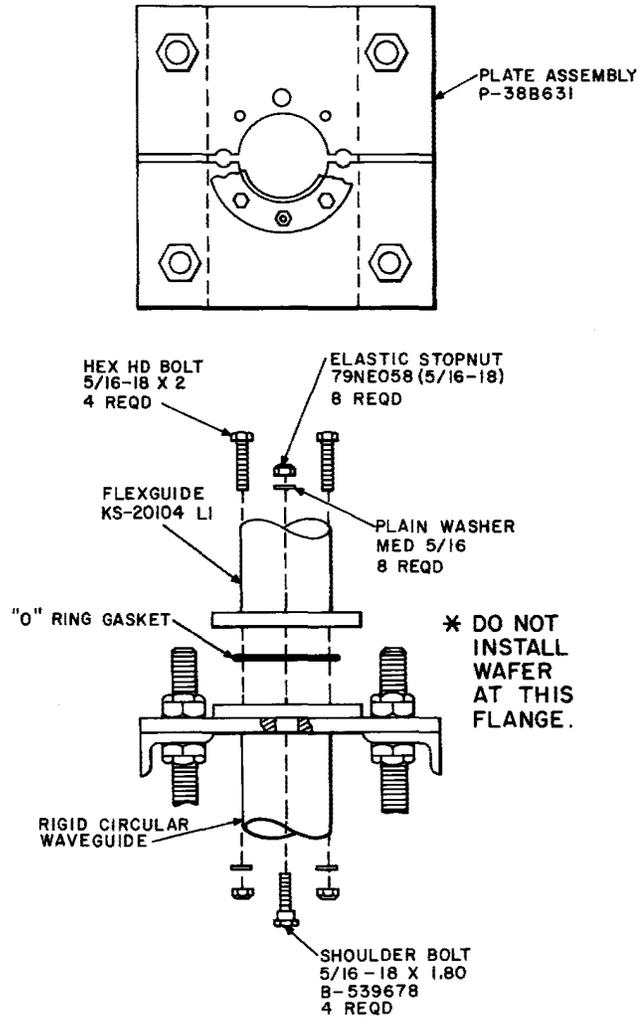

Fig. 14—Installation of Flexible Waveguide at Hanger Plate
3.04 Form the flexible waveguide into a smooth curve and mate the flanges. Using the hardware supplied with the flexible waveguide, connect the two flanges as shown in Fig. 14.